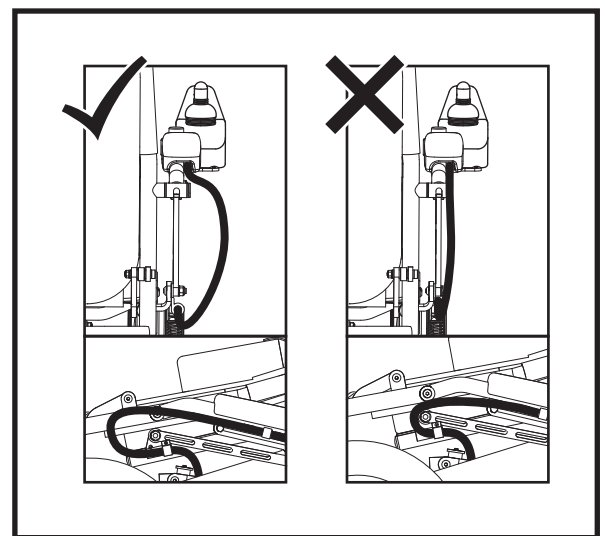

**Figure 4. Battery Box Removal/Installation**
2. Install the battery box into the battery tray by sliding it horizontally into the rear of the frame beneath the seat until the securement pin clicks into place. **See figure 4.**
5. Grasp the battery box handle and lift up the locking pin to disengage the box from the power base, then slide the battery box out of the power base. **See figure 4.**